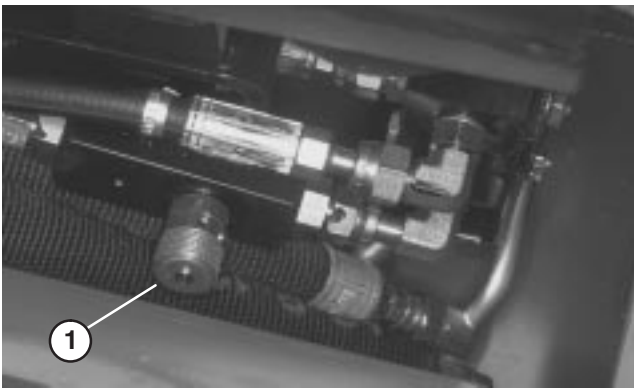

Figure 63
1. Raise hood and locate valve on left rear side of machine (Fig. 63).